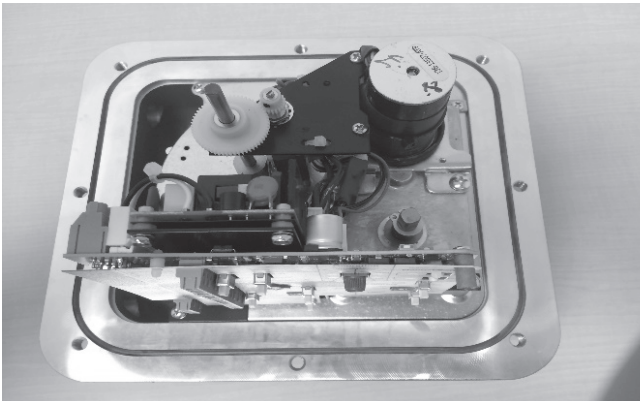

Figure 1.
- 4.2 Remove the actuator cover, using a 6mm hex wrench for LADC models, or the 5mm hex wrench for ADC models. The internals will look like Figure 1, (LADC model shown).